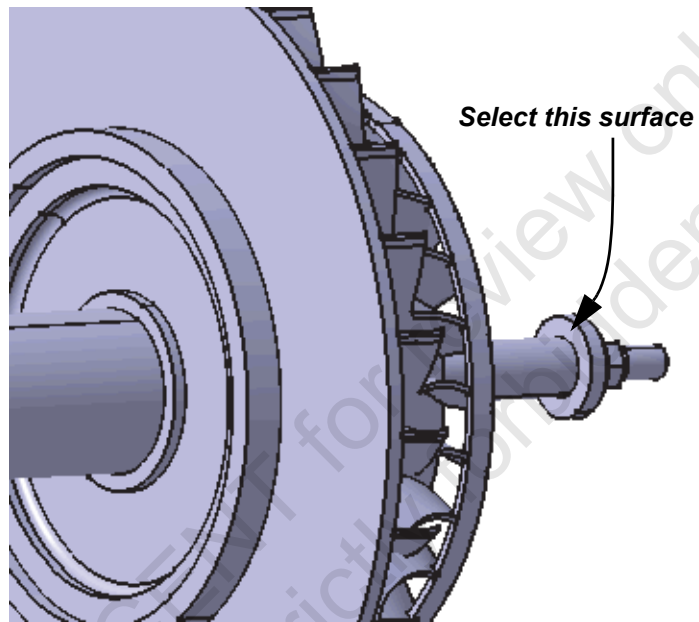
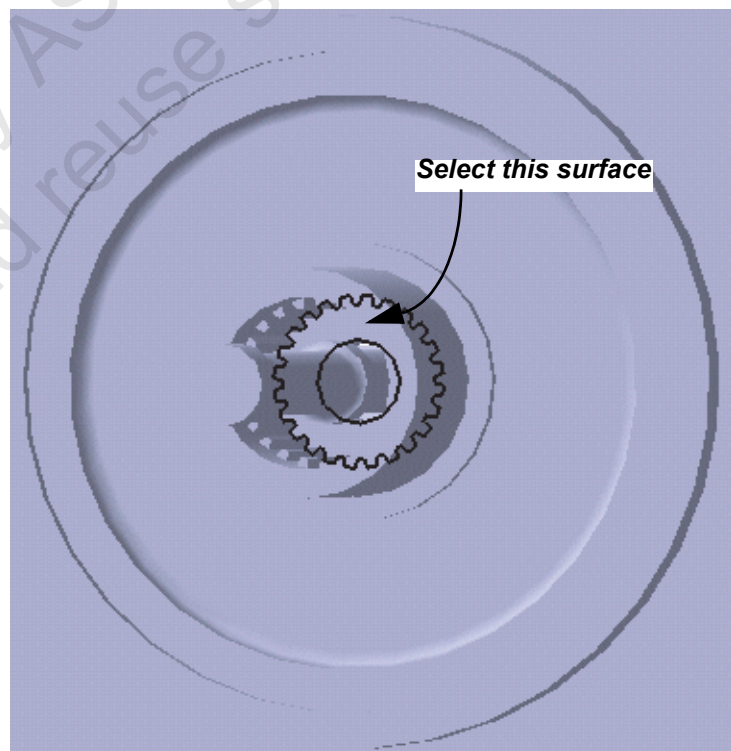

Figure 1-48
Figure 1-49
3. Apply a Contact constraint to the surface of **TieBolt**, as shown in Figure 1-48 and to the back surface of **Impeller**, as shown in Figure 1-49.